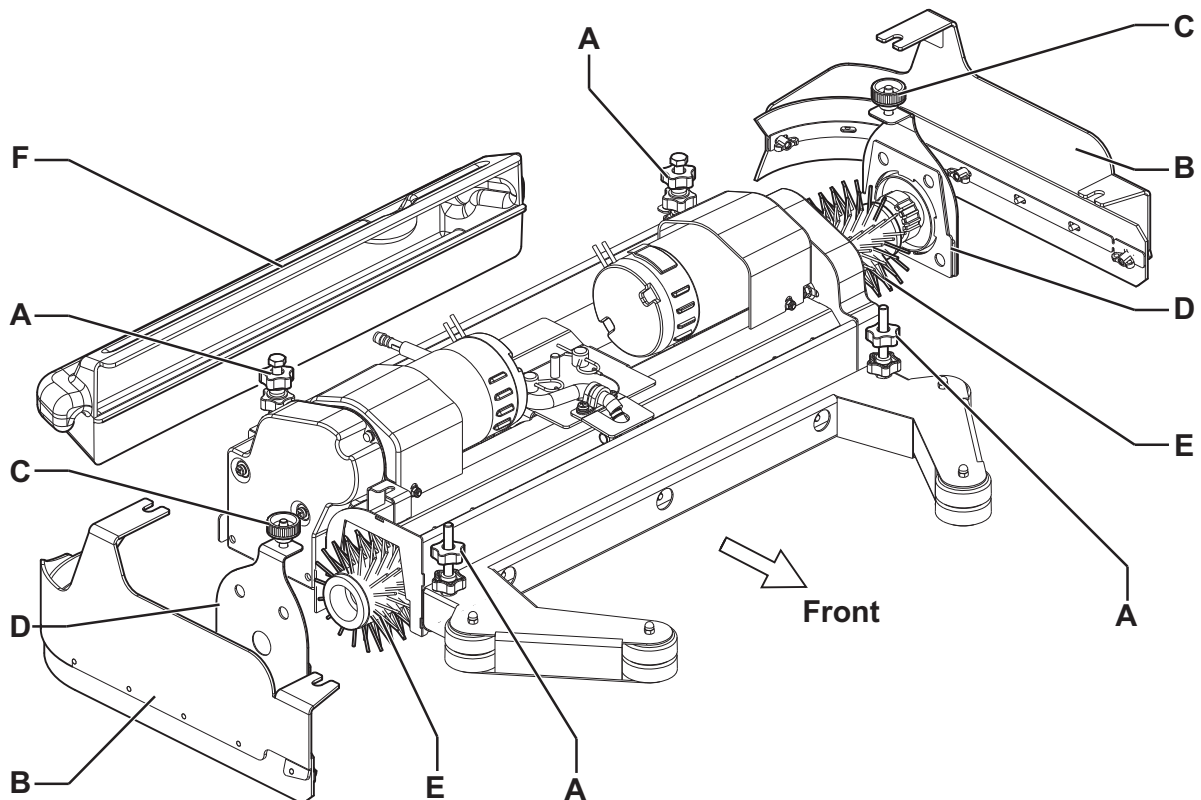

Figure 2
1. Insert the ignition key (58) and turn it to "I".
*Before turning on the switch (63), always check that between the deck (28) and the machine there is no foreign material which may prevent the deck from lifting.*
2. Lift the deck by pressing the switch (63).
3. Turn the ignition key (58) to "0" and remove it.
4. On both sides of the machine, unscrew the knobs (A, Fig. 2) and remove the side skirt assemblies (B).
5. Unscrew the knobs (C) and remove the lids (D) by pushing the knobs downwards.
6. Install the cylindrical brushes (E), or remove them to install new ones.